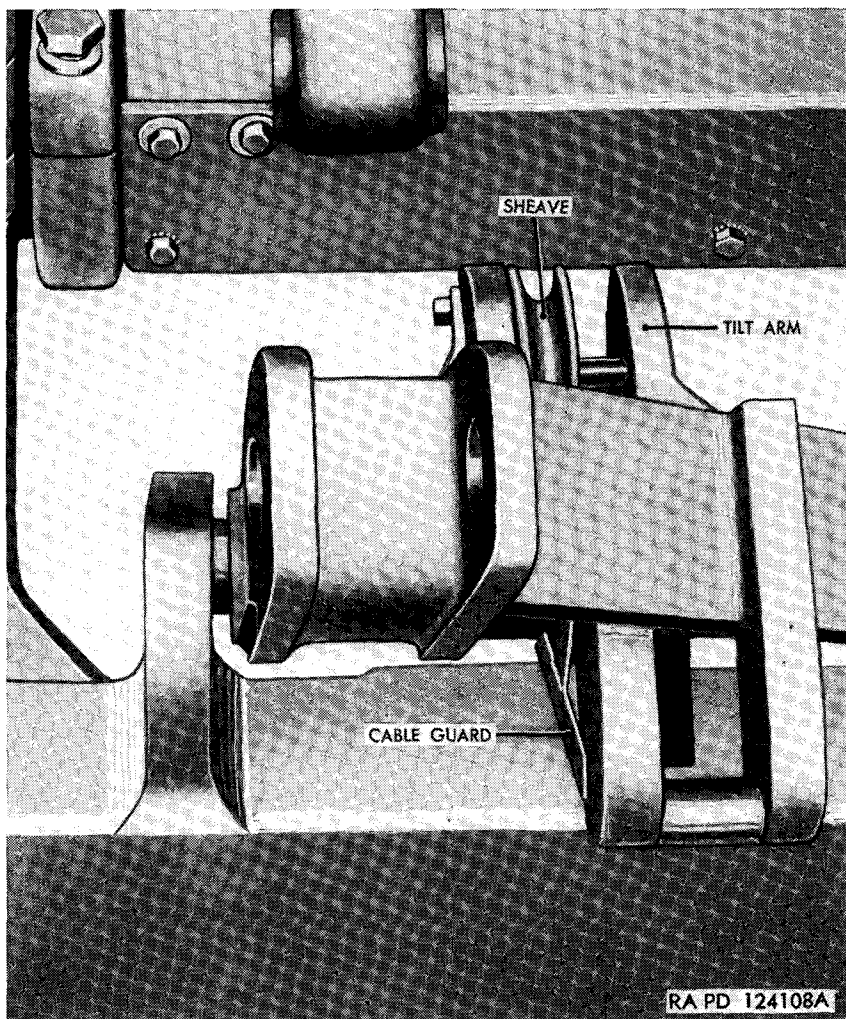

Figure 39. Right-inner tilt arm with emergency-lift-cable sheave installed.
n. Take the small sheave and pin (shipped tied to the cable) and mount this sheave in the brackets which project downward on the underside of the right inner tilt arm (fig. 39). The sheave should be mounted so that cable passes around it. The pin is secured to the inside bracket with a cap screw and lock washer.
p. There are two mounting blocks already welded to the top side of the right inner tilt arm, one on the front of the carrying-hooks-engagement pin right bracket, the other directly in front of this, in a recess in the top of the tilt arm. Take the cable-guard bracket, which is an approximate H-shaped piece (shipped tied to the cable) and bolt it to these mounting blocks with two cap screws and lock washers (H, fig. 34, and fig. 39). When properly mounted, the guard will project down through the opening in the tilt arm at the left side of the cable, and will serve to keep the cable free from entanglement with the carrying hook at this side of the vehicle.